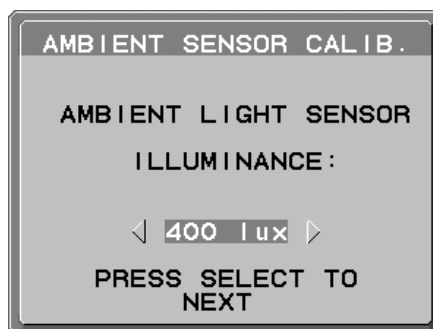

Figure AS.2
4. Input the value measured by the illuminance meter which should be installed at the same angle as the display (**Figure AS.5**). Input the value by using the control keys, then press SELECT (**Figure AS.2**).